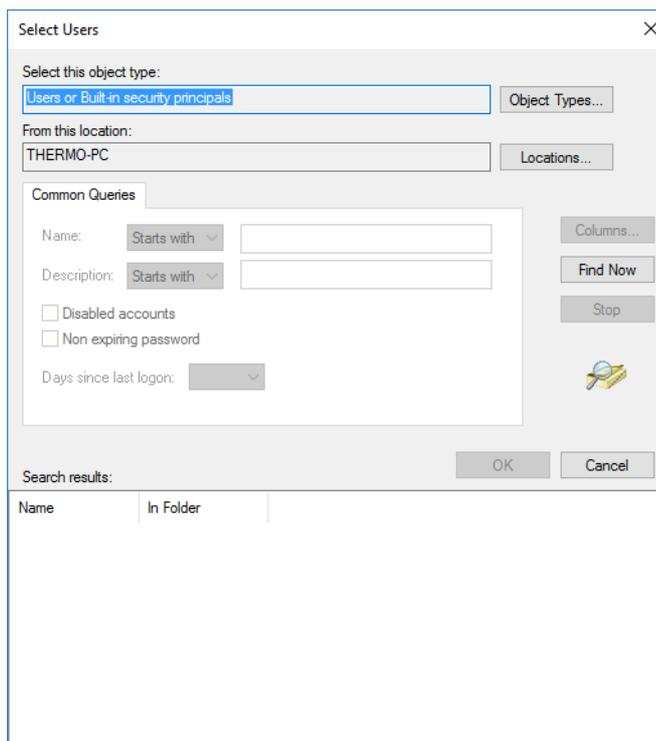

Figure 2-8. Advanced search for Windows users
- b. Click **Advanced** to open the extended search dialog (see Figure 2-8).